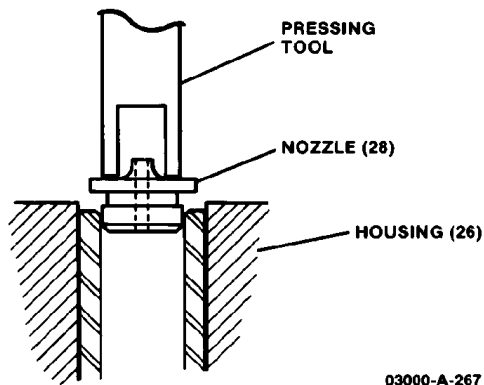

Figure 5-2. Method of Pressing Nozzle (28) into Housing (26)
(Refer to Figures 5-2, 5-3, and 6-1.)
1. If removed during disassembly, press nozzle (28) in place using a tool as shown in Figure 5-2. Be careful not to damage the nozzle or housing (26).